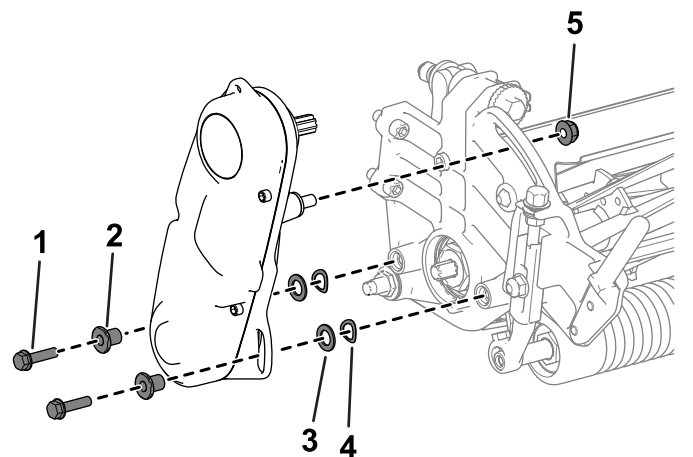

Figure 3
1. Remove the hardware that secures the reel-drive assembly to the side plate (Figure 3).
2. Remove the reel-drive assembly, flat washers, spring washers, and spacers from the side plate (Figure 3).